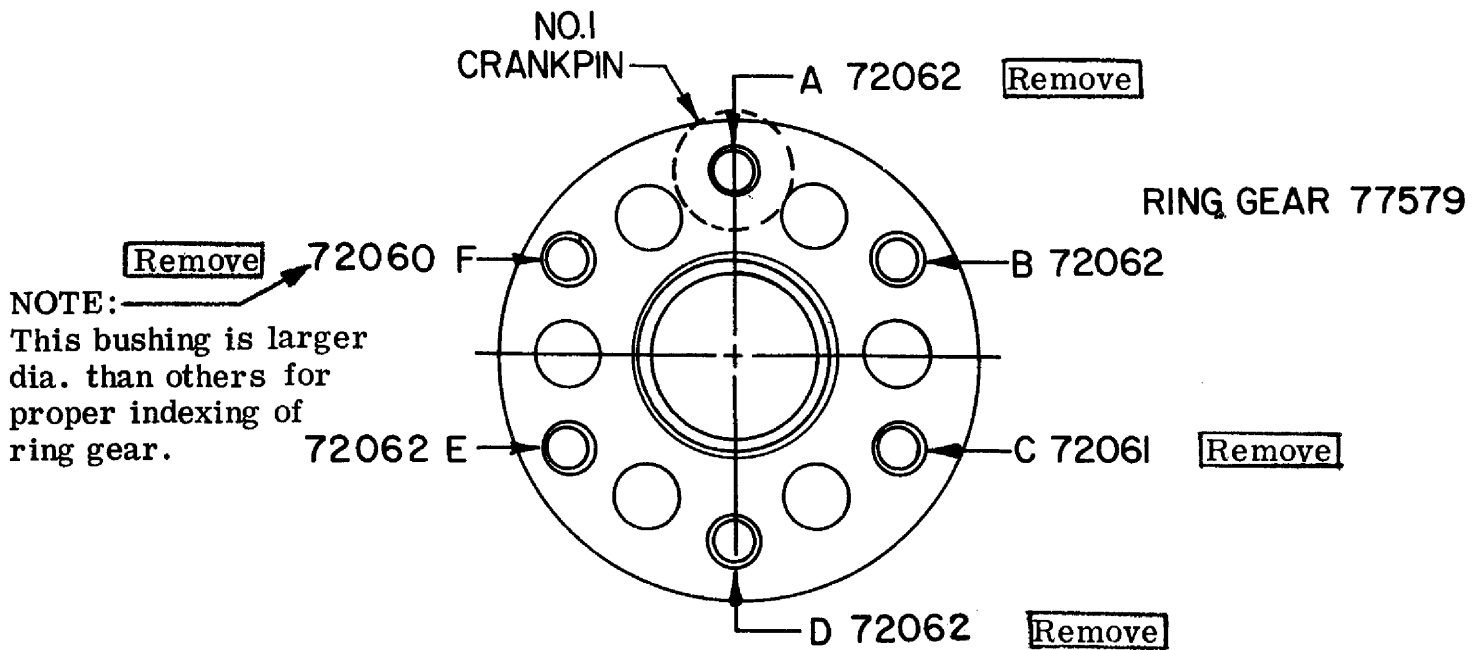

Fig. 1: Propeller Flange Bushing Location For IO-360-A3B6D
1. Remove four (4) of the original propeller flange bushings as indicated in Figure 1.